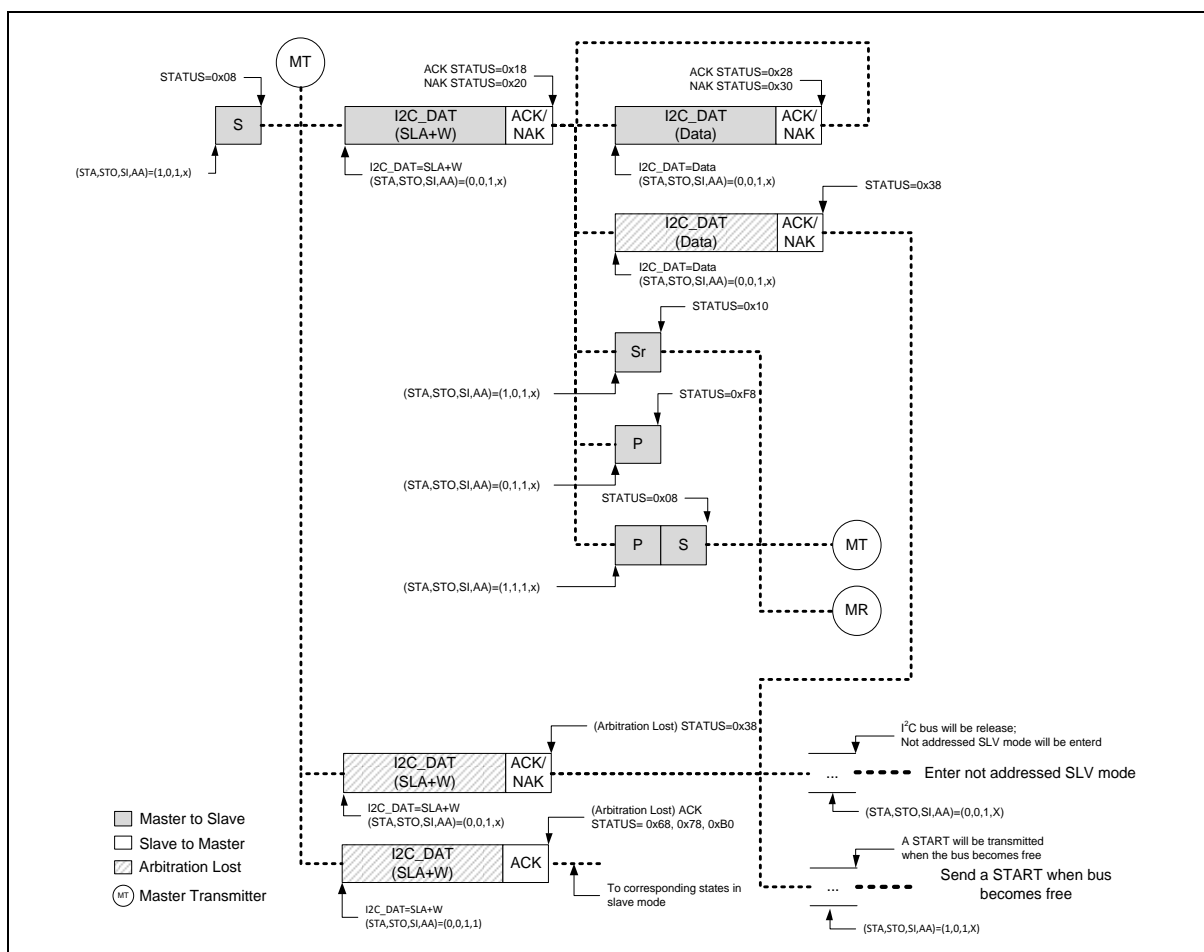
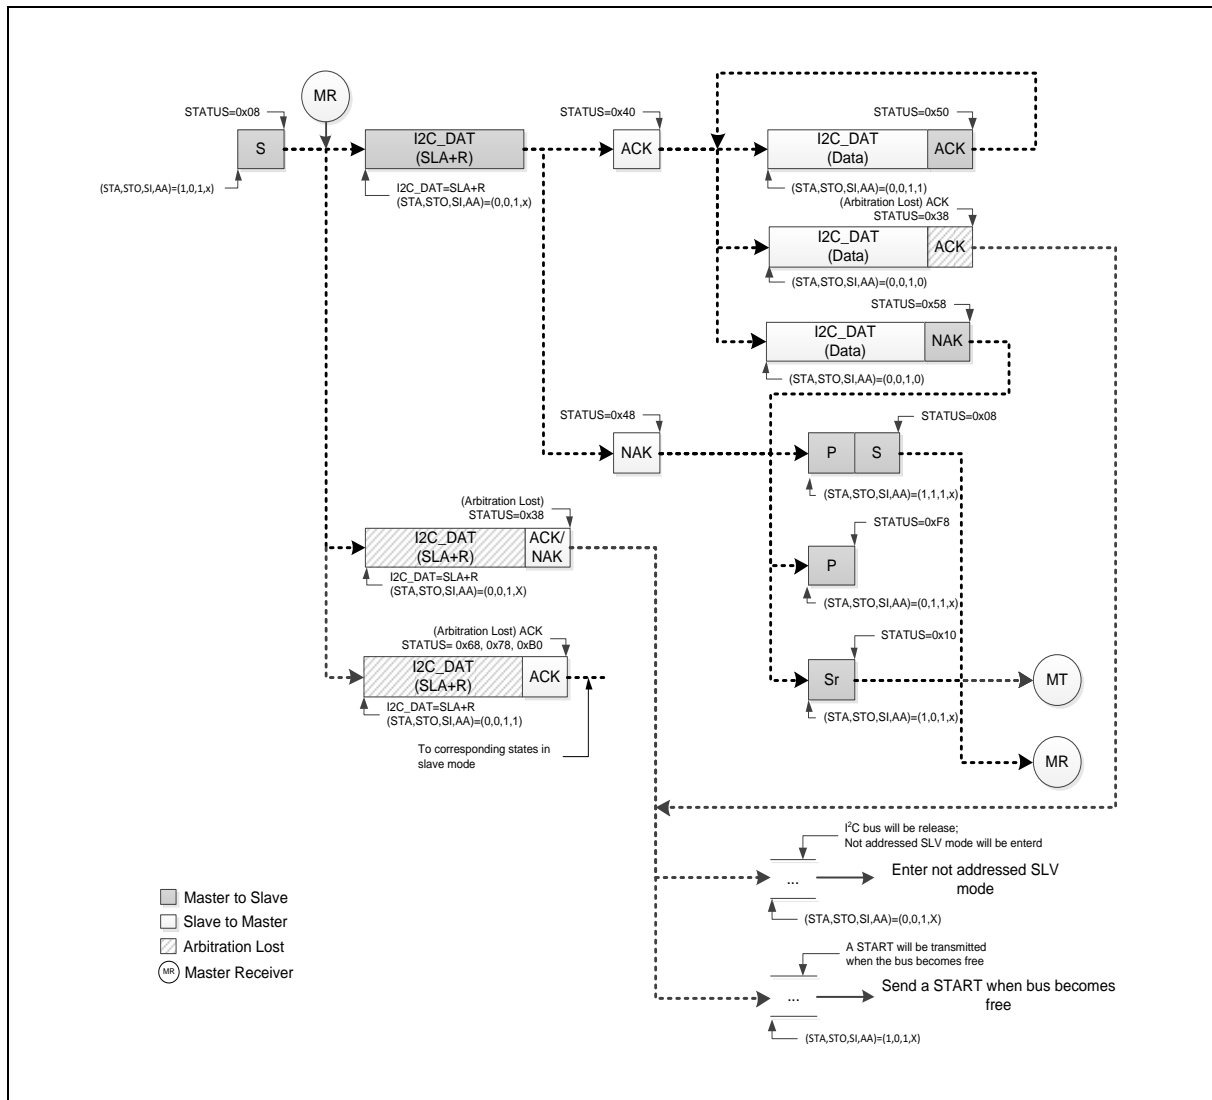

Figure 6.17-12 Master Transmitter Mode Control Flow
Figure 6.17-13 Master Receiver Mode Control Flow
In Figure 6.17-12 and Figure 6.17-13, all possible protocols for I2C master are shown. User needs to follow proper path of the flow to implement required I2C protocol.
In other words, user can send a START signal to bus and I2C will be in Master Transmitter (MT) mode (Figure 6.17-12) or Master receiver (MR) mode (Figure 6.17-13) after START signal has been sent successfully and new status code would be 0x08. Followed by START signal, user can send slave address, read/write bit, data and Repeat START, STOP to perform I2C protocol.